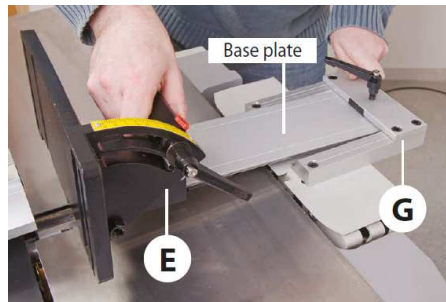

Fig 4
mounting bracket (G) sufficiently for the next step. Lightly tighten clamping handle, see Fig 4.